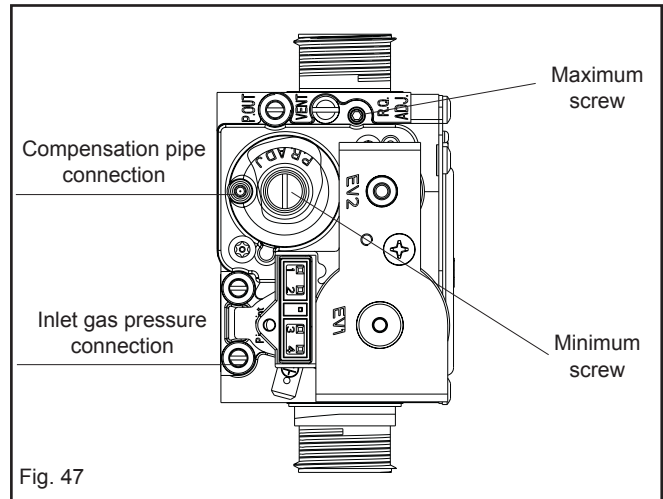

Fig. 47
- using a 2.5mm Allen key, very slowly turn the maximum adjustment screw (see fig. 47) – clockwise to decrease, counter clockwise to increase – until the correct value is displayed on the CO₂ analyser (allow time for the analyser to stabilise).
- locate the minimum adjustment screw (fig. 47), using a suitable screwdriver remove the protection plug
- using a 4mm Allen key, very slowly turn the minimum adjustment screw (see fig. 47) - clockwise to increase, counter clockwise to decrease - until the correct value is displayed on the CO₂ analyser (allow time for the analyser to stabilise).